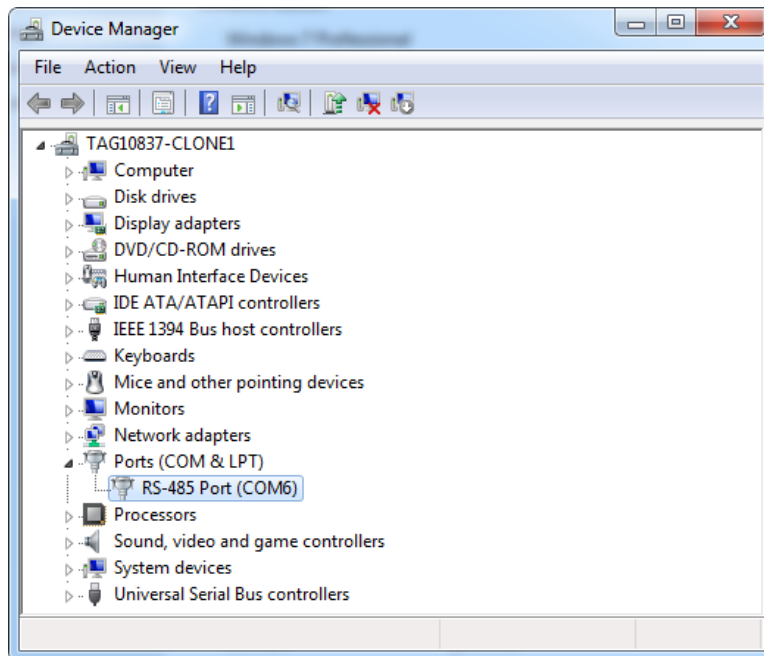

Figure 4- RS-485 Port
2. Connect the PC and CLWTC-1000 controller with a USB cable, Under PC's Device Manager\Ports (COM & LPT), a RS-485 Port will show up, see Figure 4.